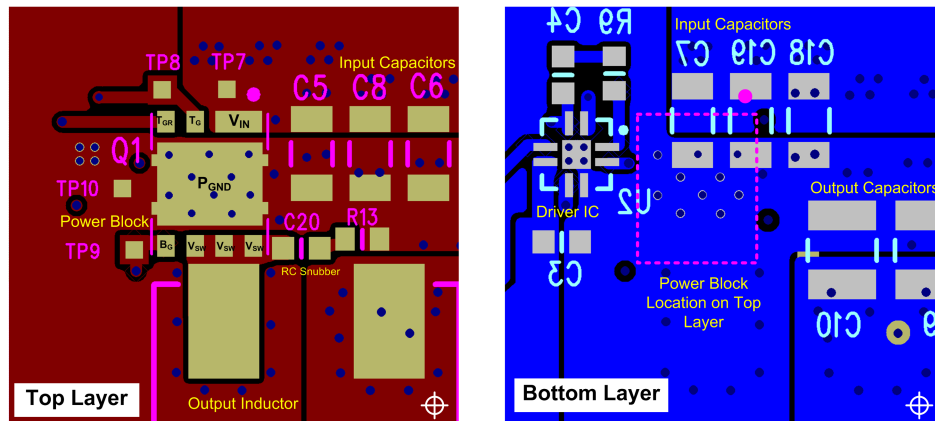

Figure 34. Recommended PCB Layout (Top Down View)
- The placement of the input capacitors relative to the power block's VIN and PGND pins should have the highest priority during the component placement routine. It is critical to minimize these node lengths. As such, ceramic input capacitors need to be placed as close as possible to the VIN and PGND pins (see Figure 34). The example in Figure 34 uses 6 × 10-μF ceramic capacitors (TDK Part # C3216X5R1C106KT or equivalent). Notice there are ceramic capacitors on both sides of the board with an appropriate amount of vias interconnecting both layers. In terms of priority of placement next to the power block, C5, C7, C19, and C8 should follow in order.
- The switching node of the output inductor should be placed relatively close to the power block VSW pins. Minimizing the node length between these two components will reduce the PCB conduction losses and actually reduce the switching noise level. In the event the switch node waveform exhibits ringing that reaches undesirable levels, the use of a boost resistor or RC snubber can be an effective way to reduce the peak ring level. The recommended boost resistor value will range between 1 Ω to 4.7 Ω depending on the output characteristics of driver IC used in conjunction with the power block. The RC snubber values can range from 0.5 Ω to 2.2 Ω for the R and 330 pF to 2200 pF for the C. Refer to Snubber Circuits: Theory, Design and Application (SLUP100) for more details on how to properly tune the RC snubber values. The RC snubber should be placed as close as possible to the Vsw node and PGND, see Figure 34. ⁽¹⁾
- Use the smallest drill size allowed in your design. The example in Figure 34 uses vias with a 10-mil drill hole and a 16-mil capture pad.